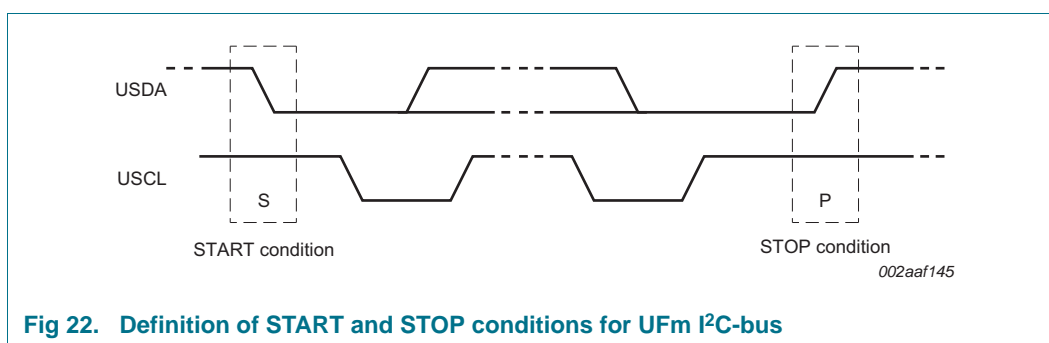

Fig 22. Definition of START and STOP conditions for UFM I2C-bus
Both data and clock lines remain HIGH when the bus is not busy. A HIGH-to-LOW transition of the data line while the clock is HIGH is defined as the START condition (S). A LOW-to-HIGH transition of the data line while the clock is HIGH is defined as the STOP condition (P) (see Figure 22).